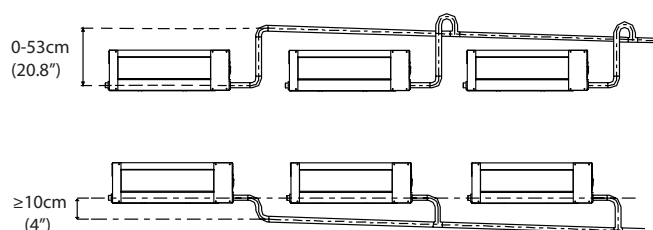

Fig. 6.4
**NOTE:** When connecting multiple drainpipes, install the pipes as illustrated in Fig 6.4.